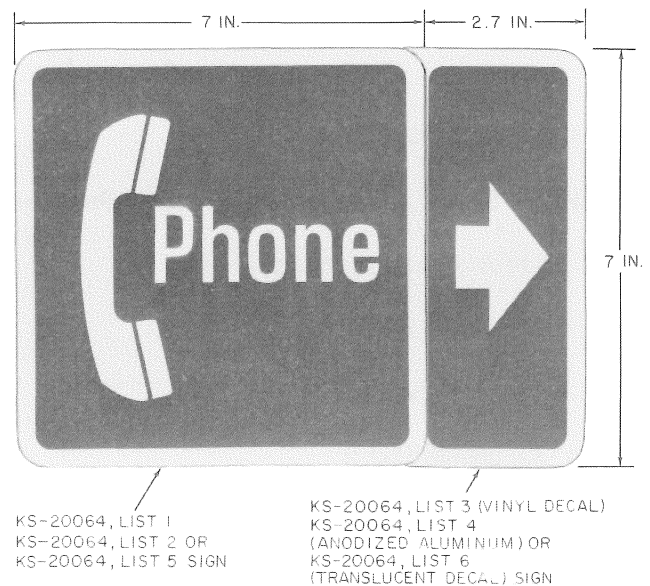

Fig. 3—KS-20064 Sign—Arrow Right
- (c) KS-20064, List 3 (Fig. 3 and 4):
(d) KS-20064, List 4 (Fig. 3 and 4):
- (f) KS-20064, List 6 (Fig. 3 and 4):